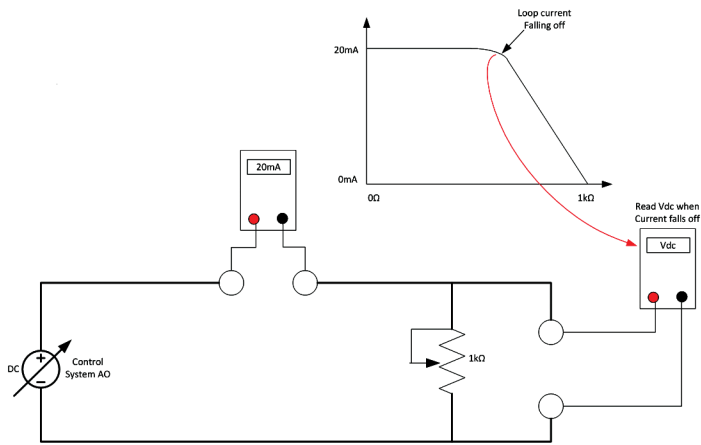

Figure 36 - Compliance Voltage Test Set-Up
1. Configure a test set-up as in Figure 36.